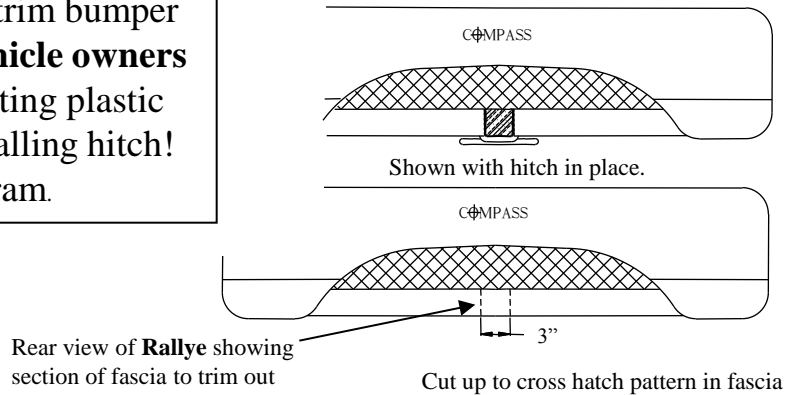
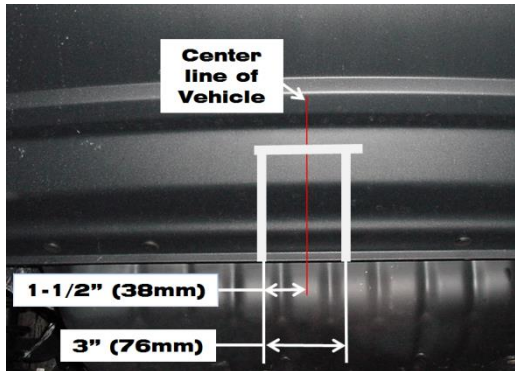
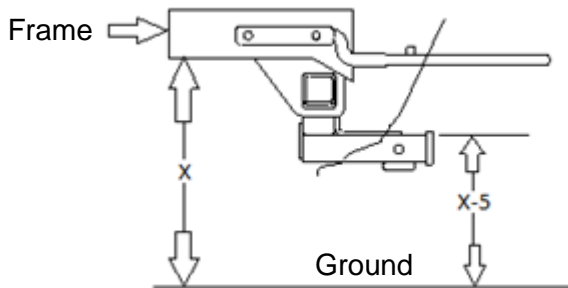

Figure 2
Figure 3
Figure 4
1.If vehicle has **optional tow hook** see **Note 1.** above. For **Compass Rallye** see **Note 2** and **Figure 2.** **Check with vehicle owner.** For **2011 and later Jeep Patriot and Compass models.** Fascia trimming is required for hitch installation. Obtain vehicle owners approval before cutting. See **Figure 3** and **figure 4** for fascia trimming diagrams.
** 2011 model has 2" vertical fascia trim (measured from the bottom of the fascia lip). Mark fascia with non-permanent marker. Re-confirm fascia cut height by using figure 4 procedure and mark height from ground on fascia. Cut the lower of the two marks.
5.On Compass Rallye Package only. Use hitch receiver tube as a guide to cut a 2-1/4" wide by 2" high piece out of bumper fascia to allow clearance for ball mounts. See **Figure 2.**